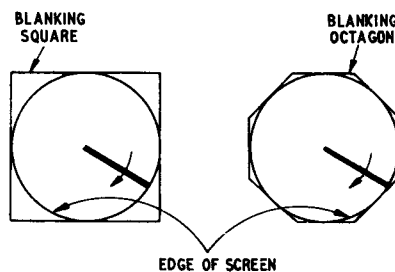

Fig. 7. Square and octagonal blanking
16. The octagonal blanking stage, which includes the pentode V4 (CV138), is included to effect CRT blanking whenever (due to trace expansion or off-centring) the spot is deflected beyond the visible screen area. The reasons for this are explained in para. 2 above. Ideally, blanking would be circular, with the beam current cut off just beyond the screen edge. As a close approximation to circular blanking involving less circuit complexity, octagonal blanking is adopted. Here the spot is blanked whenever it is deflected beyond the boundaries of a regular octagon enclosing the visible screen area. Octagonal blanking has been developed from a simpler circuit giving square blanking (fig. 7) which gave inadequate blanking at the corners of the square.
23. To produce an octagonal blanking boundary instead of a square one, it is necessary to ensure that blanking occurs (i.e. that V4 is switched on) not only when one of the CV345 cathode potentials falls below +11V, but also in the regions of the corners of the blanking square (fig. 7), i.e., when one X cathode potential and one Y cathode potential fall simultaneously below +16.2V. This figure differs from the central value of